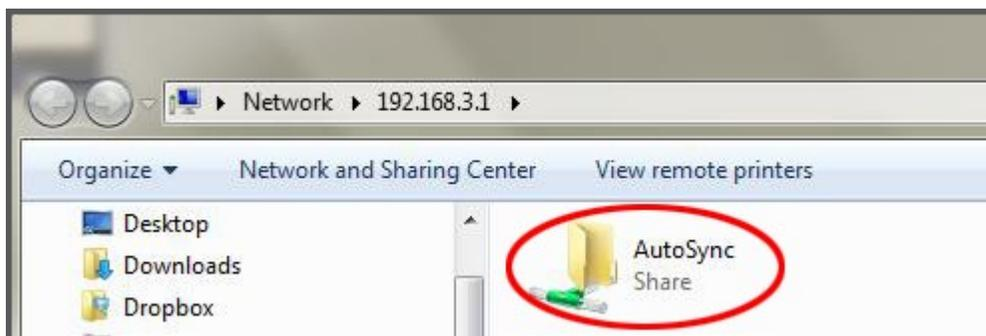

Figure 24 AutoSync screen
7. You should see the following: (Figure 24)
8. Drag and drop files to be transferred into the AutoSync folder (Figure 24).